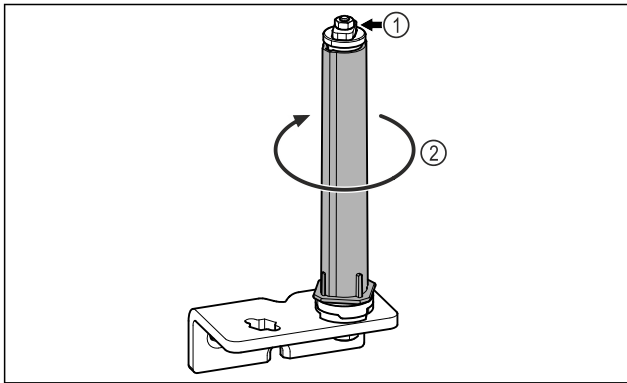

Fig. 16
- Do not disassemble the door locking system Fig. 16 (1).
- Turn the locking system Fig. 16 (2) until it clicks.